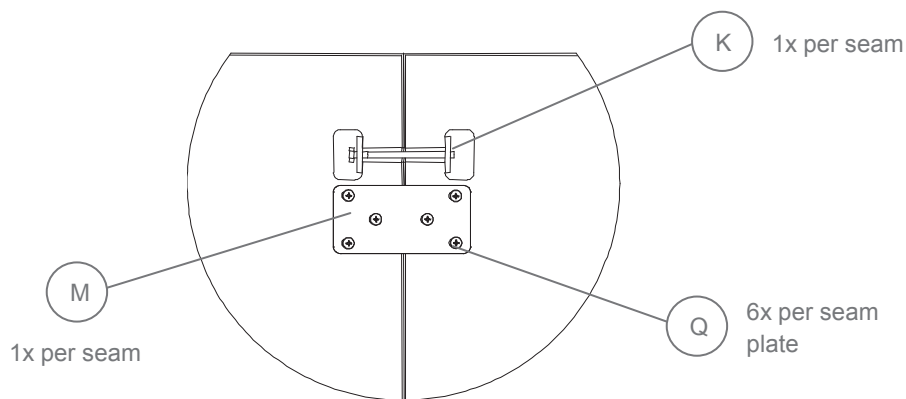

Figure 6.2
1. Attach two Desksurfaces of the next table segment to an adjacent Desksurface or Surface Extension using Tite Joints (see figure 6.2).